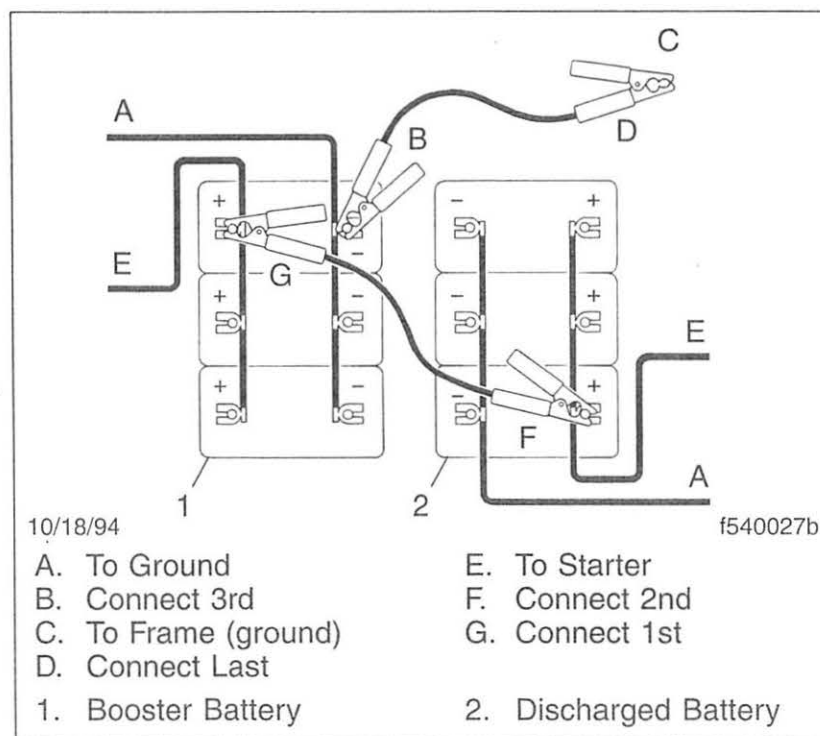

Fig. 13.2, Jumper Connections
2. Connect an end of one jumper cable to the positive terminal of the booster battery (or jump-start post, if equipped), and connect the other end of the cable to the positive terminal of the discharged battery (or jump-start post, if equipped). See **Fig. 13.2**.